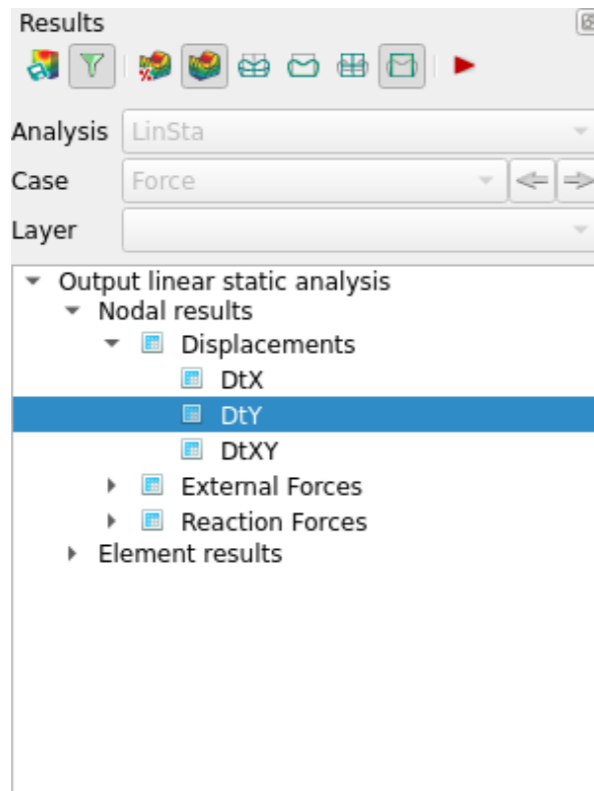

Figure 21: Results browser
**Results browser** → LinSta → Output linear static analysis → Nodal results → Displacements → DtY  → Show contours [Fig. 21]